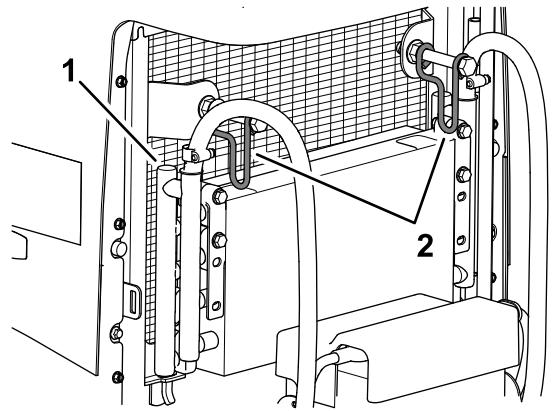

Figure 110
7. Rotate the 2 oil-cooler latches inward, and tilt the oil cooler (Figure 110).